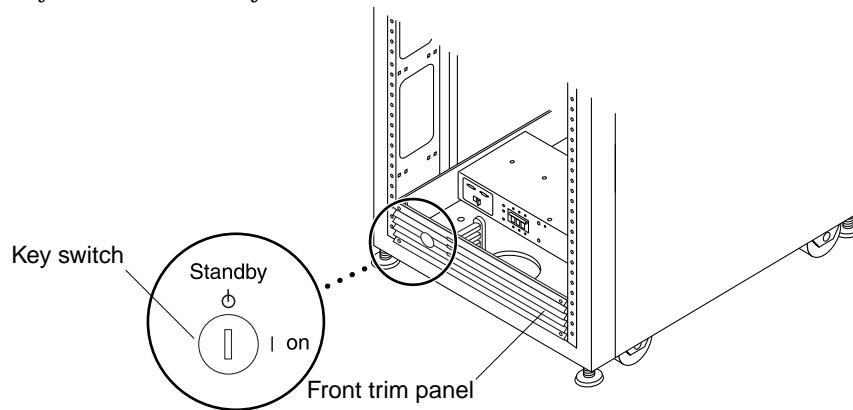

FIGURE 4-1 Location of Key Switch on Bottom Front Panel
1. Verify that the key switch located at the bottom front of the storage system is in the Standby position (FIGURE 4-1).